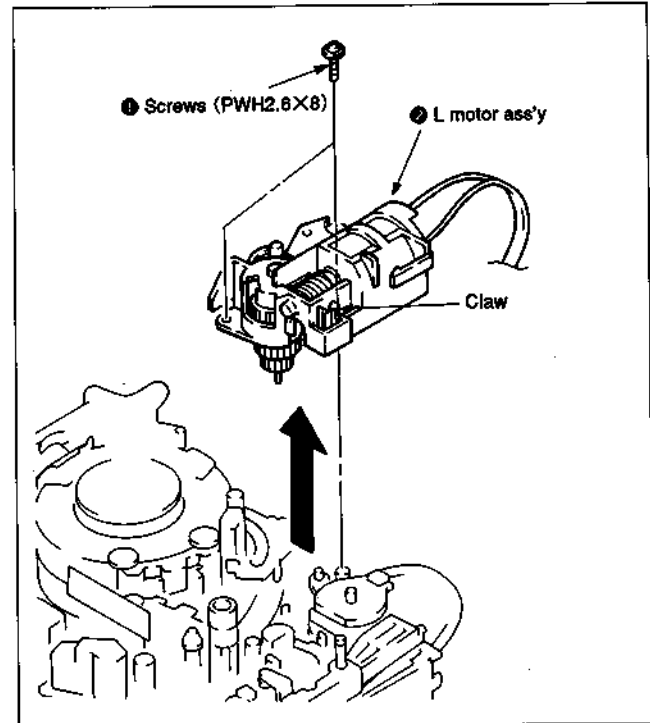

Fig. 7-4. How to thread/unthread tape manually (2)-a
- 2) Extend the claws and remove the L motor ass'y ② in the direction of the arrow. (Fig. 7-4.)